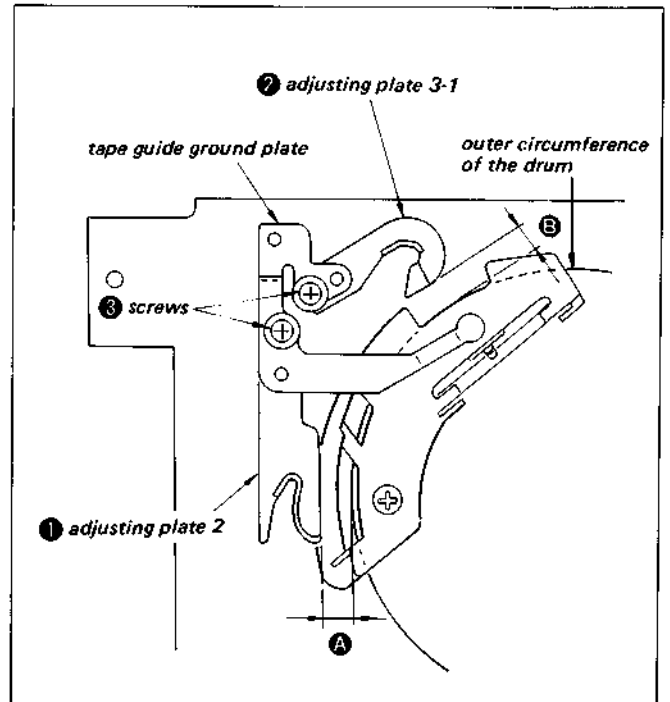

Fig. 3-13 Measurement of the position of adjusting plates 2 and 3-1
- ③ Remove the screws shown in Fig. 3-13, then remove the tape guide ground plate and adjusting plates 2 and 3-1.
Proceeding in the same manner as in replacement of the drum assembly, measure the width of the gap between the upper drum and the adjusting plates (Fig. 3-13).